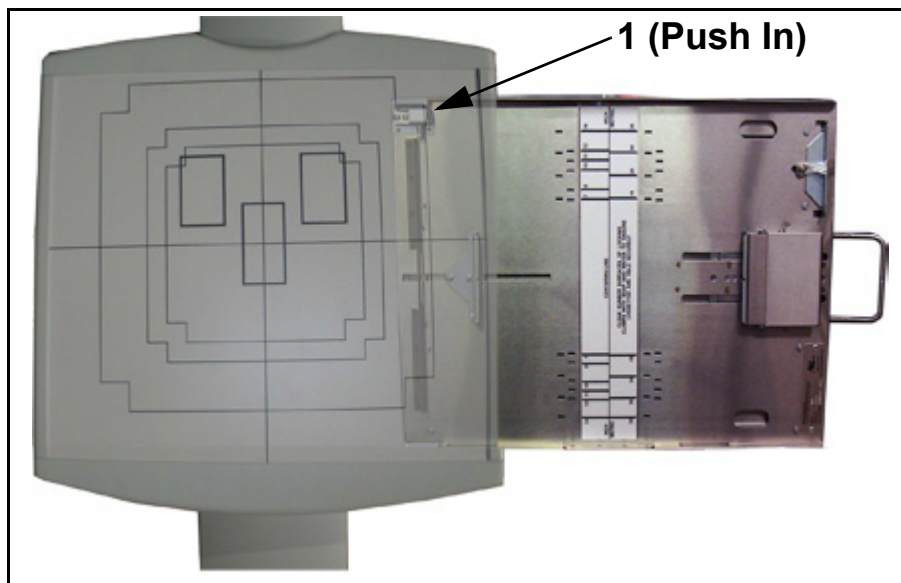

Figure 6-20. Cassette Tray Removal
- 3 While firmly pressing the cassette tray release latch (1 in Figure 6-20), pull the cassette tray completely out of the bucky.